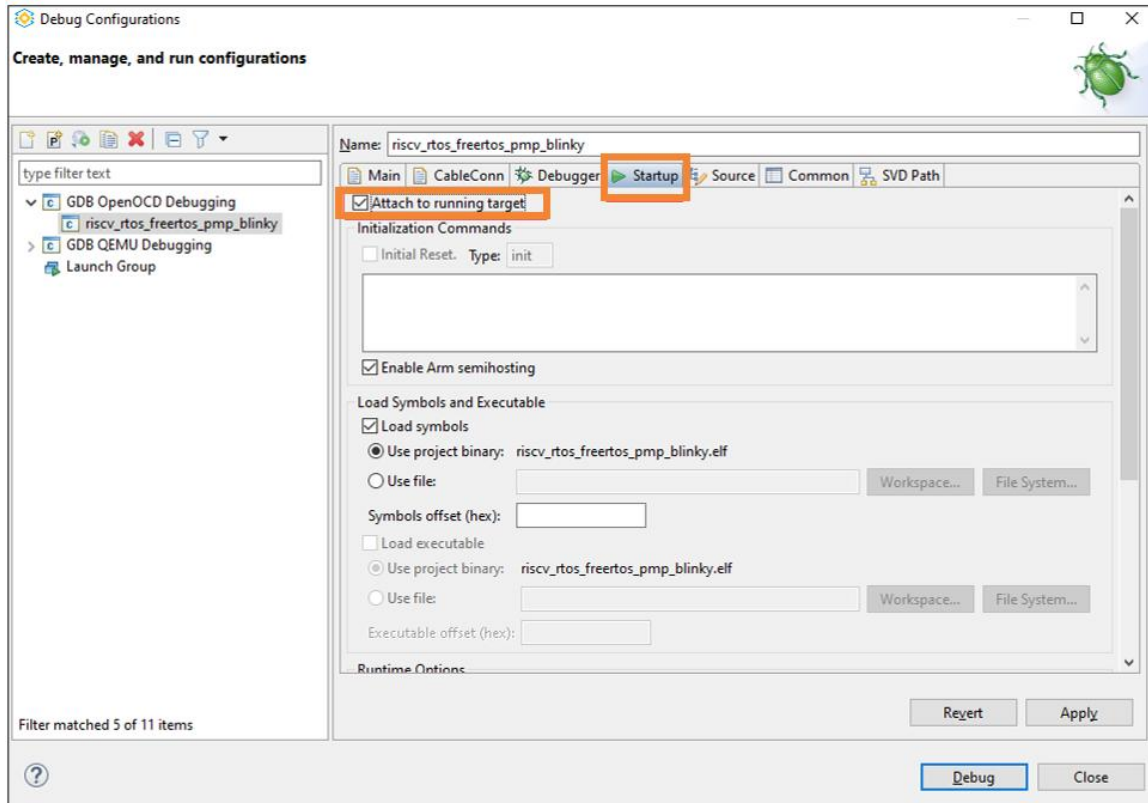

Figure E.2. Debug Configurations Dialog 5
2. Select **Run > Debug Configurations...**. Select the corresponding item (Figure E.2).
3. Select the **Startup** tab. Select the **Attach to running target** checkbox (Figure E.2). Click **Apply**. Click **Debug**.